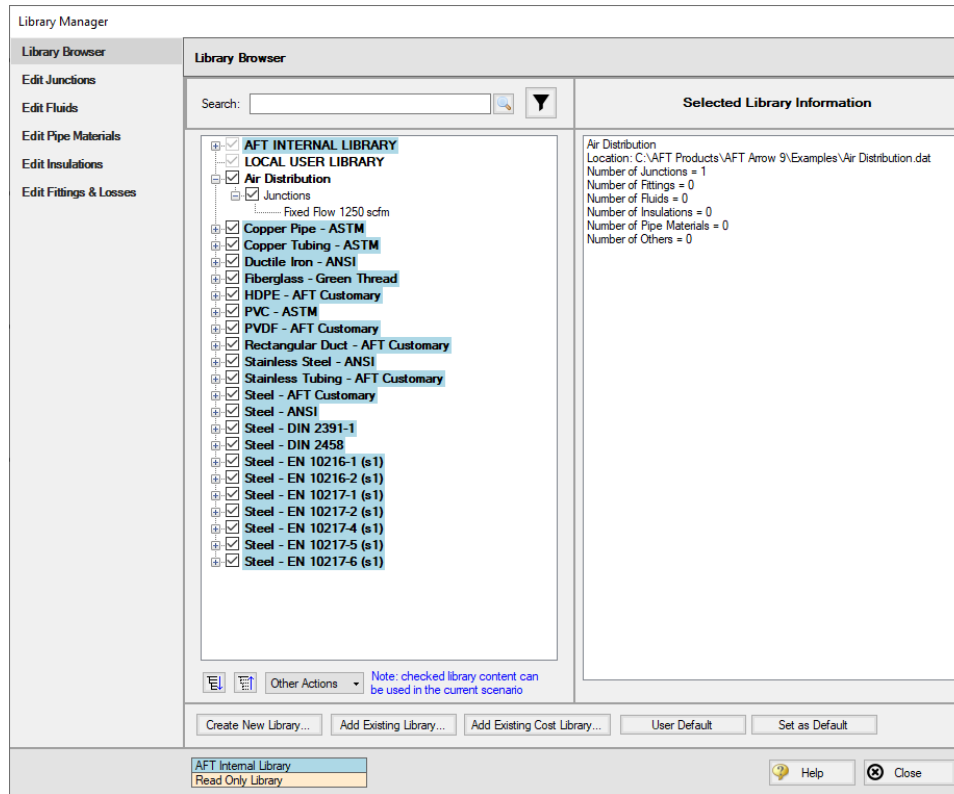

Figure 1: Library Manager showing the components moved to the new external library from the local user library
5. For the compressor that we added earlier, right-click the name, then click Move Content to move the junction from the LOCAL USER LIBRARY to the Air Distribution library. The Fixed Flow 1250 scfm compressor should now be visible in the Junctions section below the Air Distribution library name, as is shown in Figure 1.